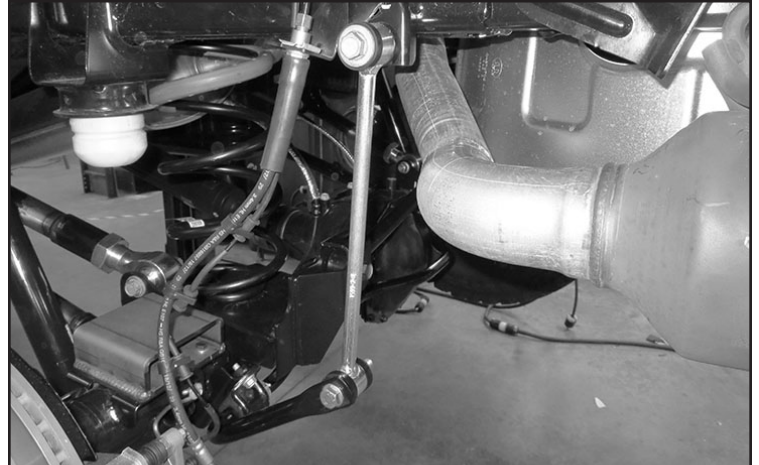

FIGURE 19 - STEP 19
19. Install the FT1004 (Half bushings) and FT404739 (Sleeves) into FT1599-2-4 (Rear sway bar links). Then, install the new links to the sway bar and sway bar mount on the frame using supplied M12 x 70mm bolt and large O.D. washer for the upper location and M12 x 70mm bolt regular washer, large O.D. washer and nut for the lower. Use the larger washer on the nut side. **NOTE: The new end link will need to be installed on the inside of the sway bar and axle mount.** Torque to 65 ft-lbs **SEE FIGURE 19**